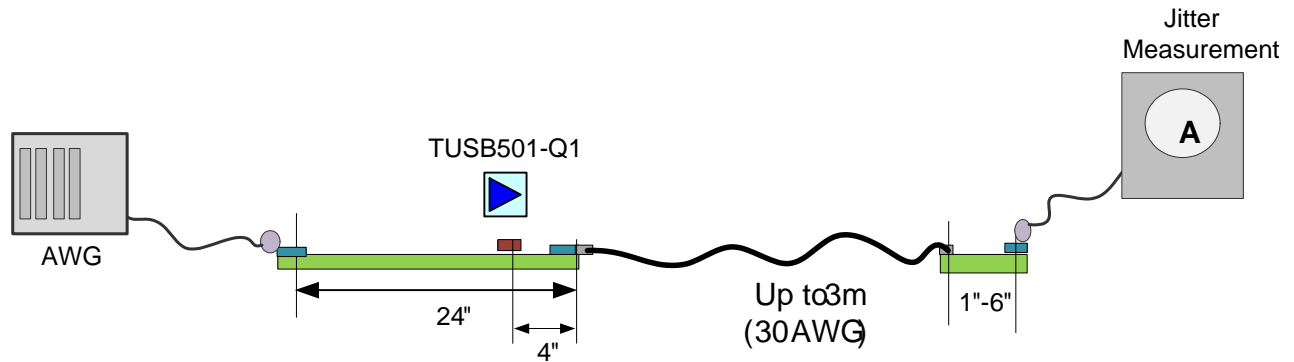

Figure 3. Jitter Measurement Setup
- (1) Includes R_J at 10⁻¹².
- (2) Measured at the ends of reference channel in Figure 3 with K28.5 pattern, V_{ID} = 1000 mV_{pp}, 5 Gbps, -3.5 dB de-emphasis from source.
- (3) UI = 200 ps.
- (4) R_J calculated as 14.069 times the RMS random jitter for 10⁻¹² BER.